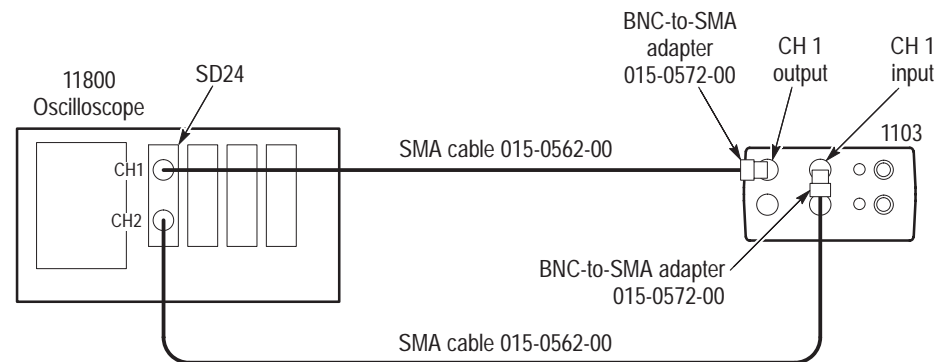

Figure 6: Test system rise time setup
1. Connect the test equipment as shown in Figure 6.